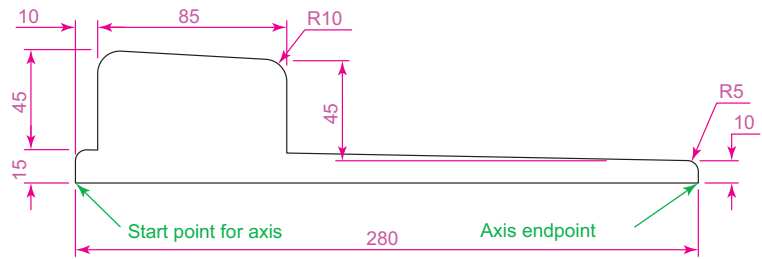

Fig. 12.19 First example – **Revolve**. The closed pline
1. Construct the closed polyline Fig. 12.19.